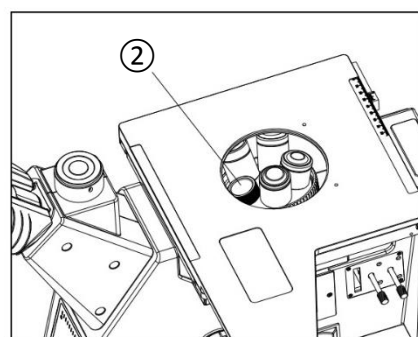

Fig. 4
Through the opening in the top of the stage (Fig. 4), remove the dust cap ② and thread the lowest magnification objective onto the nosepiece opening, then rotate the nosepiece clockwise and thread the other objectives from low to high magnification.